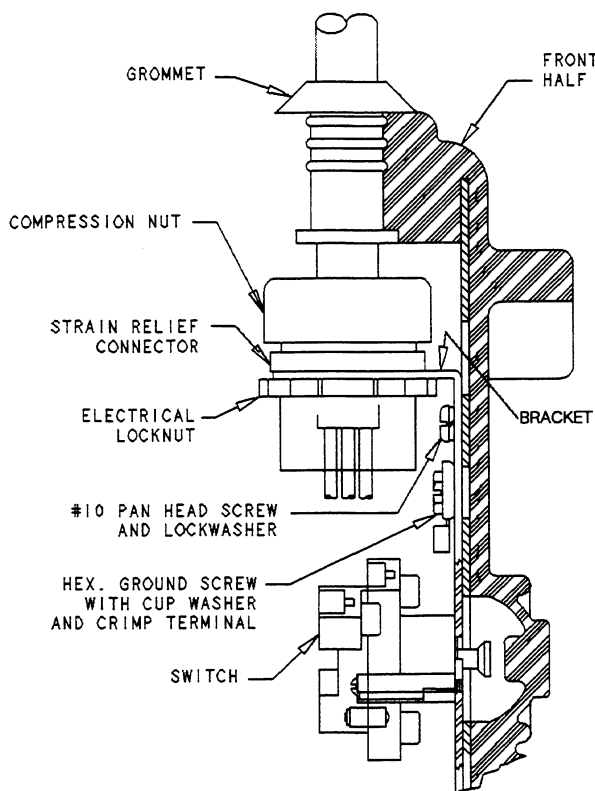
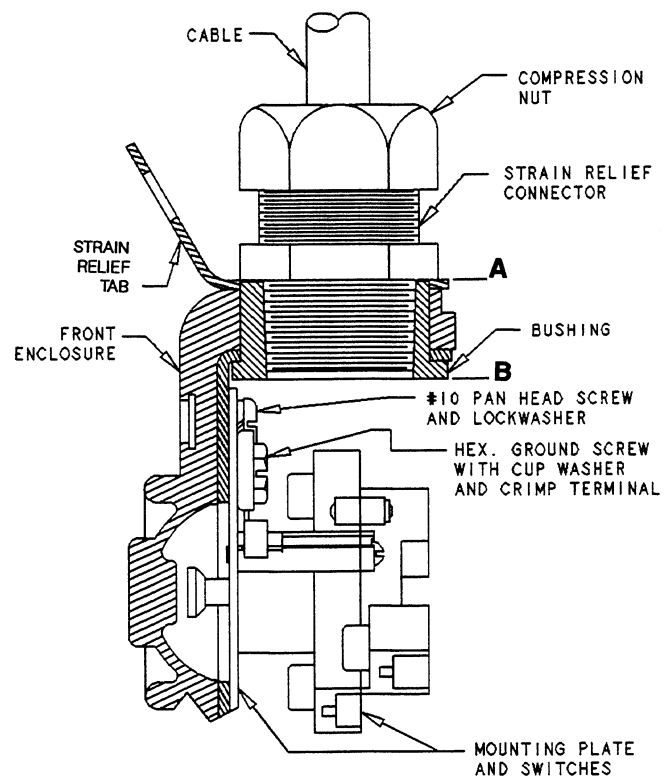

Figure 1
Figure 2
1. **For 2, 4, 6 or 8 Pushbutton Stations:** Mount switches to bracket using the captive screws contained within the switches. See Figure 1.
2. **For 4, 6 or 8 Pushbutton Stations:** Select proper strain relief connector from Table 1. Insert connector into large hole in bracket. Apply electrical locknut and tighten securely. See Figure 1. **For 2 Pushbutton Stations:** Select proper strain relief connector from Table 1. Apply pipe thread sealant to strain relief connector and fully screw into bushing until tight. See Figure 2.
5. **For 4, 6 or 8 Pushbutton Stations:** Mount bracket to pendant front half using the five #10 pan head screws and lockwashers. See Figure 1. **For 2 Pushbutton Stations:** Mount switches with mounting plate to front enclosure using the two #10 pan head screws and lockwashers. See Figure 2.
6. Insert cable through strain relief connector. Securely tighten compression nut, while positioning grommet in top half **for 4, 6 or 8 Pushbutton Stations**. See Figure 1. **For 2 Pushbutton Stations**, position end of jacket so that it is between points A and B shown on Figure 2. Securely tighten compression nut to retain cable position and create a seal.